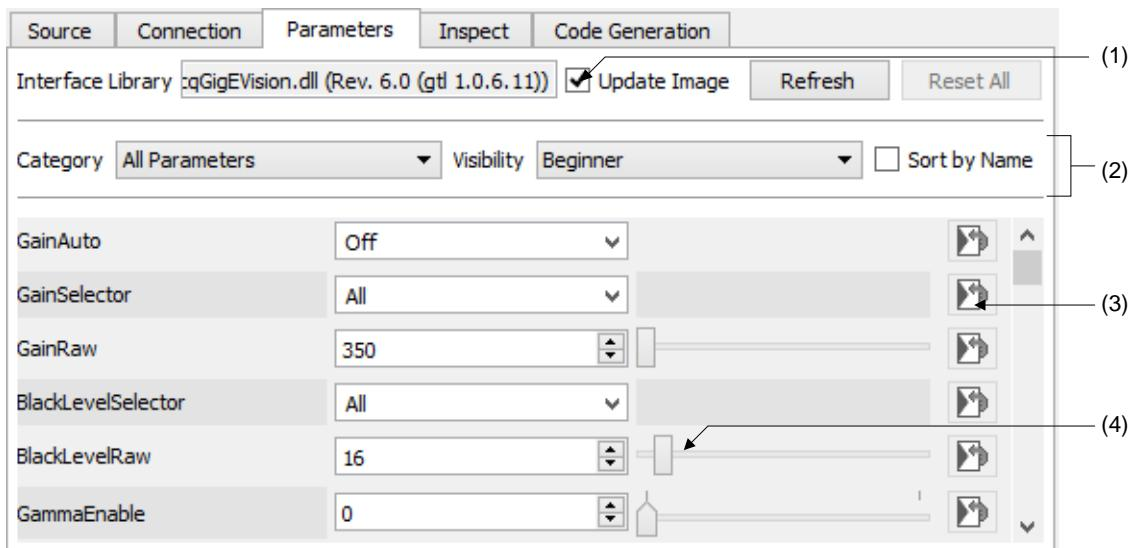

Figure 3.8: Device-specific parameters (example).
The tab card **Parameters** contains a list of parameters specific to the selected device. It becomes available once the connection to the device has been activated. See figure 3.8 for an example parameter list. The range of parameters can be limited by category and visibility (2). Please refer to the HTML page of the selected interface for detailed information. You can click the help button of the assistant to get to the corresponding page automatically.